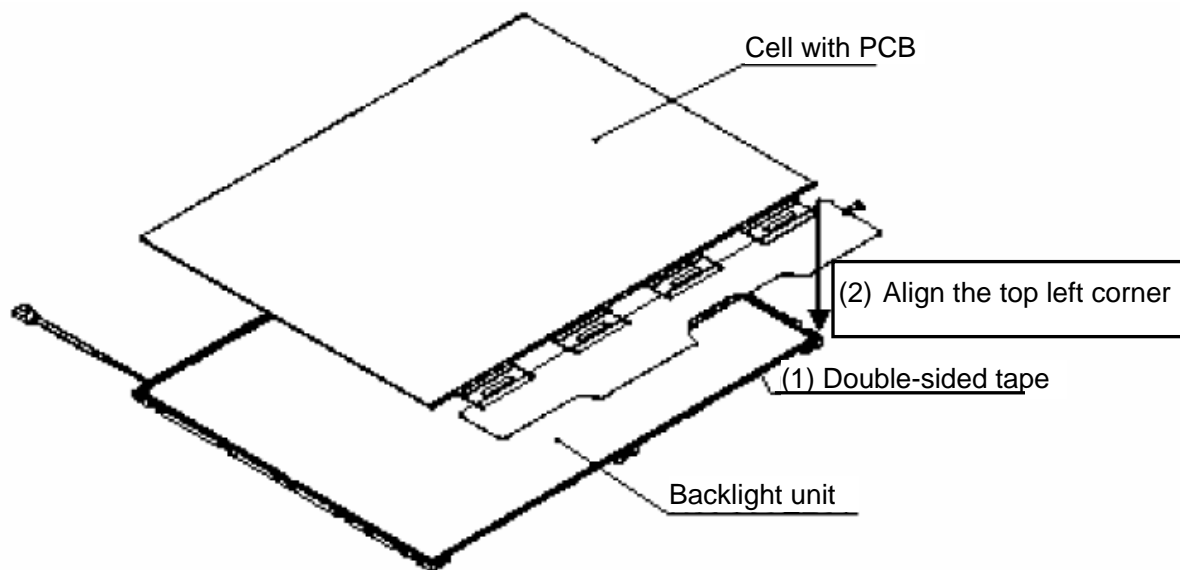

Figure 4-48 Replacing 14.1 Inch TMD fluorescent lamp (XGA) (7)
1. Remove the release paper of the double-sided tape at the upper of the backlight unit. (as indicated (1) in Figure 4-48)
CAUTION: (1) Align the top left corner of the cell with the corresponding corner of the backlight unit, as indicated (2) in Figure 4-48.
(2) Be careful not to damage the TAB.